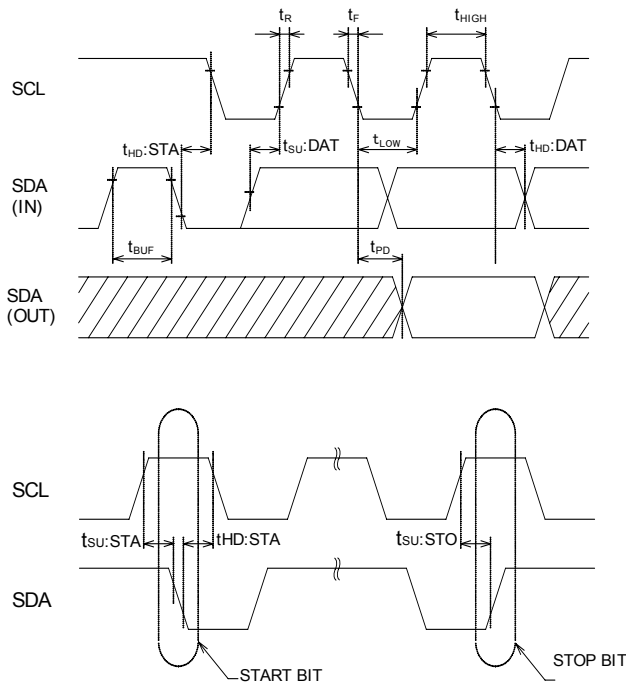

Figure 1. Synchronous Data Timing
- (See Figure 1 Synchronous Data Timing)